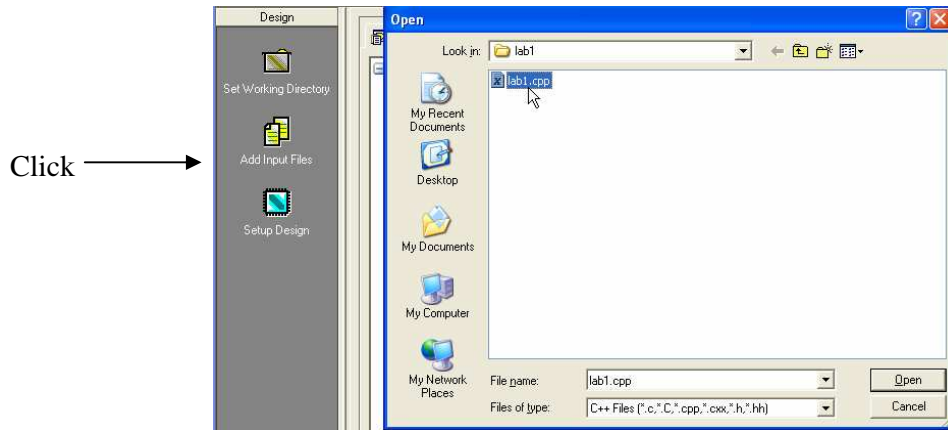

Figure 2 Adding input files
- ✓ Click on the “Add Input Files” icon in the design bar and add the lab1.cpp file (Figure 2).